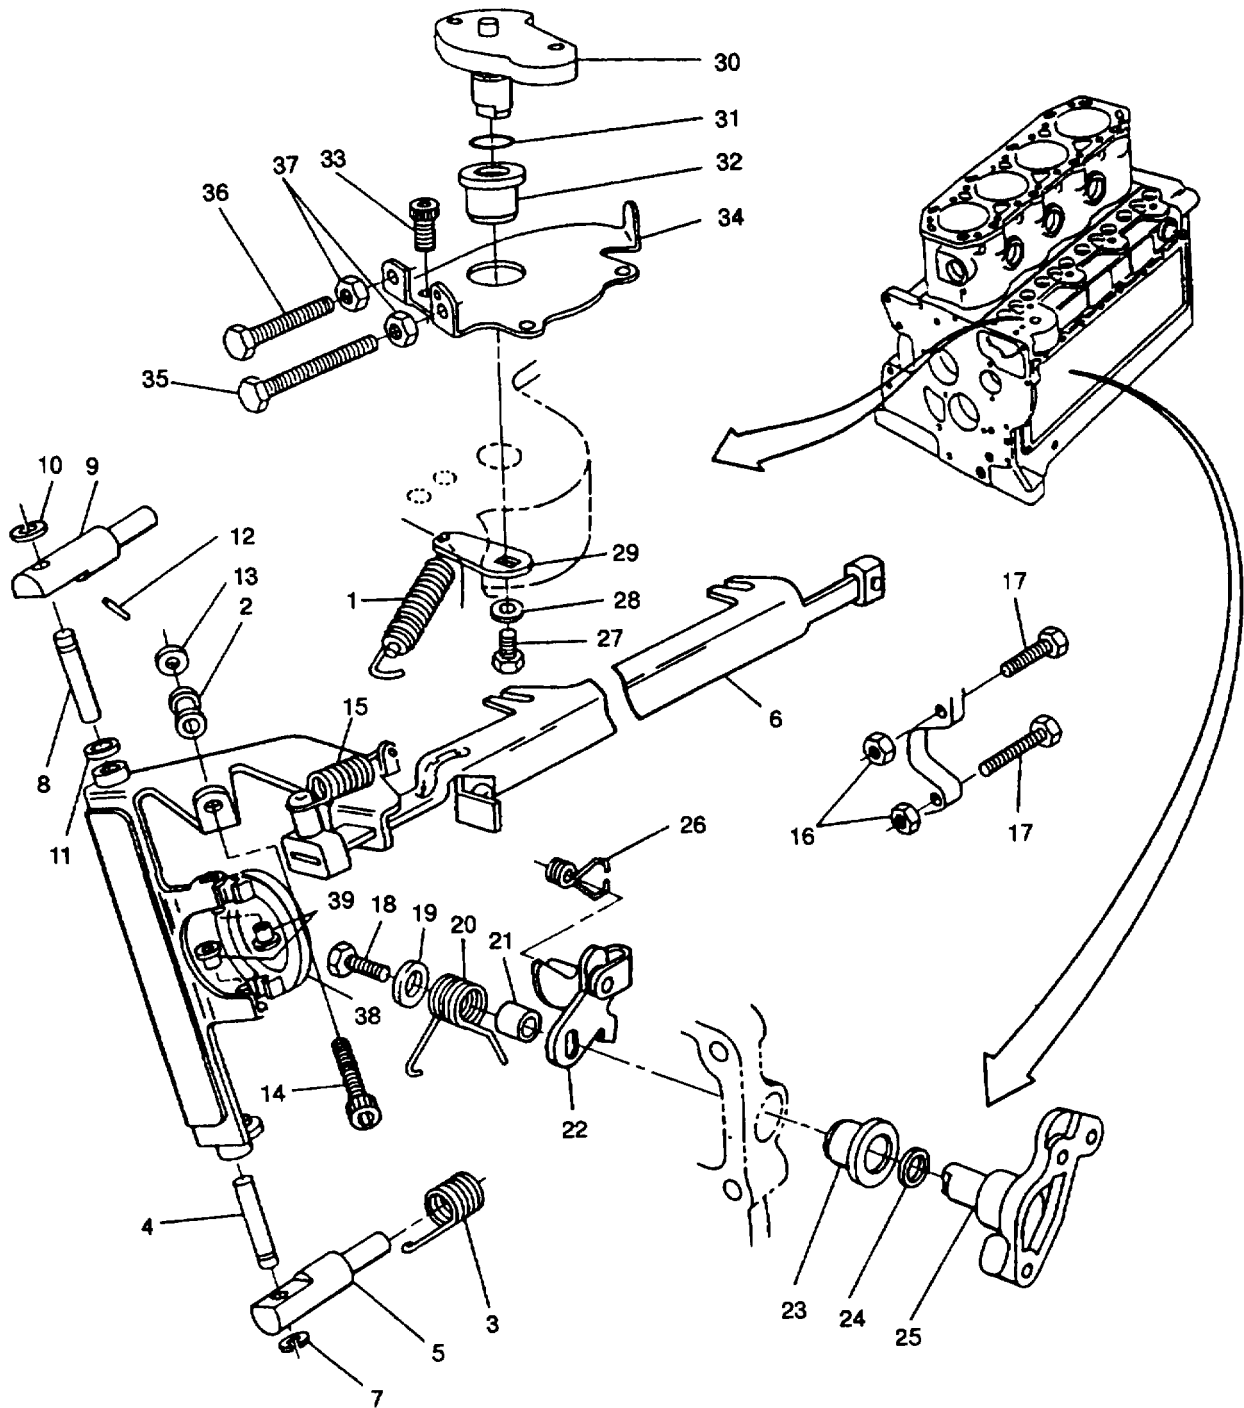
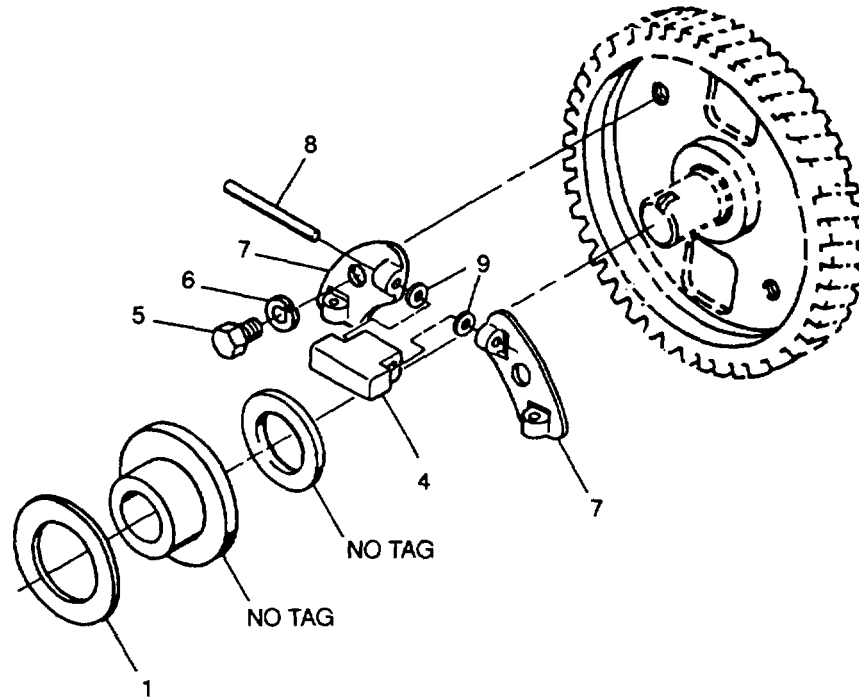

FIGURE 3-19. Governor System
FIGURE 3-20. Governor Weights
- Unhook speeder spring (1, FIGURE 3-19) from retainer (2) and lever (29); remove spring.
- Unhook spring (3) from pivot pin (4).
- Remove lower pivot pin (4) from lower pivot support (5) and governor lever (6). Remove pivot retainer (7). Remove spring (3) from lower pivot support (5).
- Remove upper pivot pin (8) from upper pivot support (9) and governor lever (6). Remove pivot retainer (10). Use care to retain all end play shims (11) that are installed.
- Carefully remove governor lever assembly and fuel pump rack (6) from crankcase.
- a. Remove two thrust washers (1 and 3, FIGURE 3-20) and sleeve (2) from camshaft.
- b. Remove pin (12, FIGURE 3-19), shim (13) and retainer (2) from droop adjust screw (14); remove screw (14).
- c. Disconnect spring (15) from governor lever (6) bushing.
- d. Remove two nuts (16) and capscrews (17) from end cover.
- e. Remove capscrew (18) and washer (19) from inside crankcase, remove spring (20), bushing (21), and lever assembly (22). From outside crankcase remove bushing (23), preformed packing (24), and lever (25). Discard preformed packing (24). Remove trip lever spring (26).
- f. From inside crankcase, remove capscrew (27) and washer (28); remove lever (29).
- g. From outside crankcase, remove speed quadrant (30) and preformed packing (31). Discard preformed packing (31).
- h. If damaged, remove bushing (32).
- i. Remove capscrew (33) securing base plate (34) to crankcase; remove base plate (34).
- j. Remove two capscrews (35 and 36) and nuts (37) from base plate (34).
- k. Remove thrust collar (38) and two bushings (39) from governor lever (6).
- l. Turn camshaft until a weight (4, FIGURE 3-20) is horizontal.
- m. Remove capscrew (5) and lockwasher (6) securing each retainer plate (7) to camshaft gear. Remove retainer plate (7) with weights. Discard lockwasher.
- n. Remove pin (8), shims (9), and weights (4) from retainer plate.
- p. Lightly lubricate pins (8) with engine lubricating oil (MIL-L-2104) and install them and shims (9) in new weights (4).
- q. Install weights (4) and pins (8) with large section of weights facing out.
- r. Install retainer plates (7) and secure each with a capscrew (5) and new lockwasher (6). Tighten capscrews to 78 in-lbs (8.8 Nm).
- s. Ensure all weights (4) move freely.
- t. Install two bushings (39, FIGURE 3-19) and thrust collar (38) on governor lever (6).
- u. Install two capscrews (35 and 36) and nuts (37) on base plate (34).
- v. Position base plate (34) on crankcase and secure with capscrew (33).
- w. If removed, install new bushing (32).
- x. From outside crankcase, install new preformed packing (31) and speed quadrant (30) into crankcase hole.
- y. From inside crankcase install lever (29) on speed quadrant (30) and secure with capscrew (27) and washer (28).
- z. From outside crankcase, position bushing (23), new preformed packing (24) and lever (25) into crankcase hole.